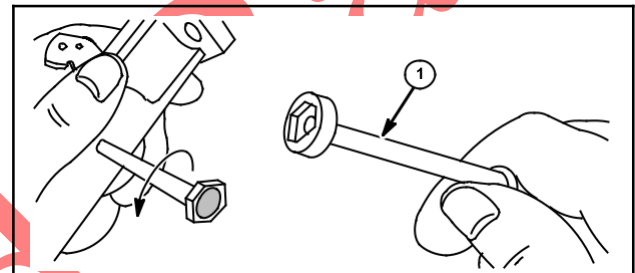

Fig. 69
Nylon fuel pick-up tubes are removed and replaced with a 6 point 9/16" (1) socket, Fig. 69.
The fuel pick-up tube contains a check ball and a fine mesh screen. To function properly, screen must be clean and check ball free, Fig. 69. Replace pick-up tube if screen and ball cannot be satisfactorily cleaned in carburetor cleaner.